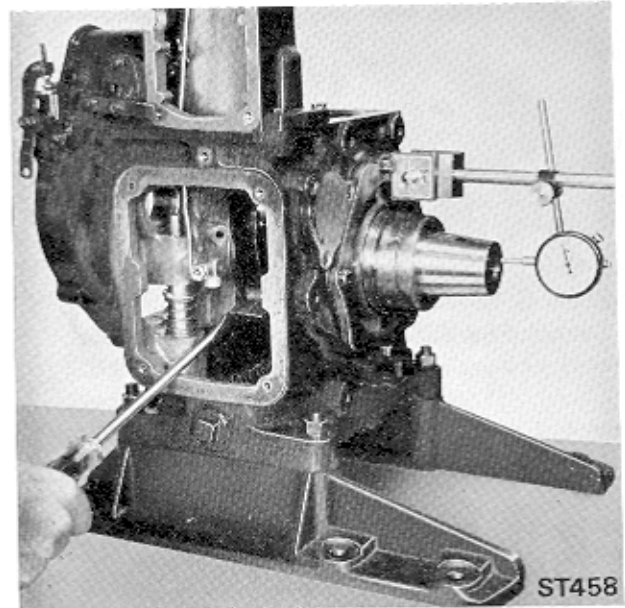

Fig. 62. Checking Crankshaft End Float
- (h) Check crankshaft end float (Fig. 62).